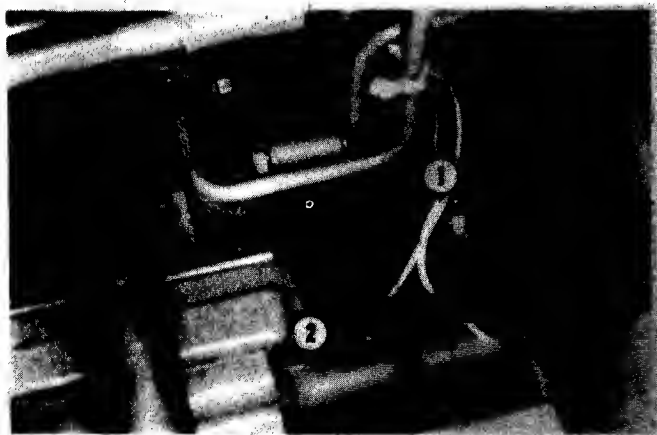

FIG. 4.31-FORWARD/REVERSE LINKAGE
6. Disconnect Forward/Reverse pedal linkage at rear, Fig. 4.31.
9. Connect forward/reverse pedal linkage at rear. Fig. 4.31.